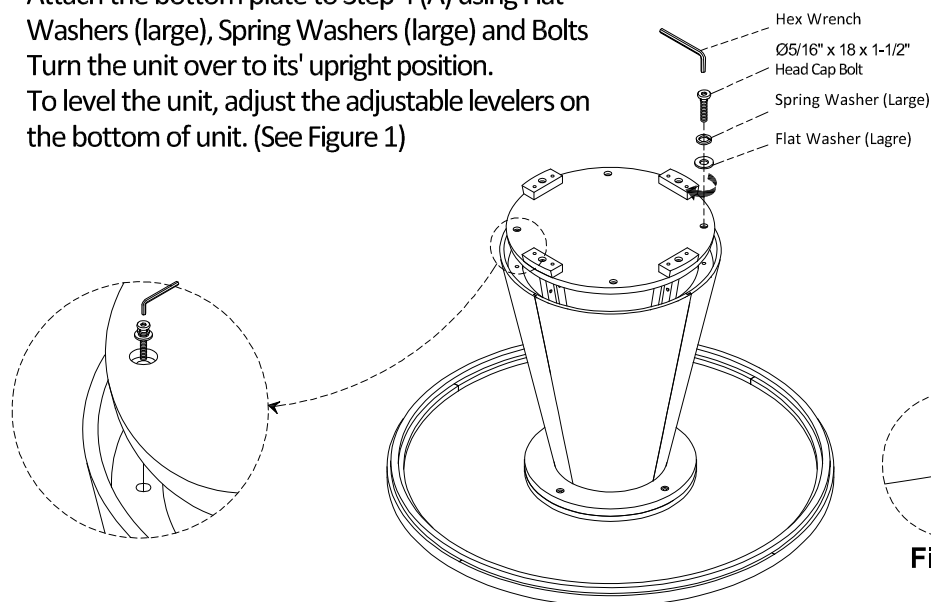

Figure 1
Attach the bottom plate to Step 4 (A) using Flat Washers (large), Spring Washers (large) and Bolts Turn the unit over to its' upright position. To level the unit, adjust the adjustable levelers on the bottom of unit. (See Figure 1)